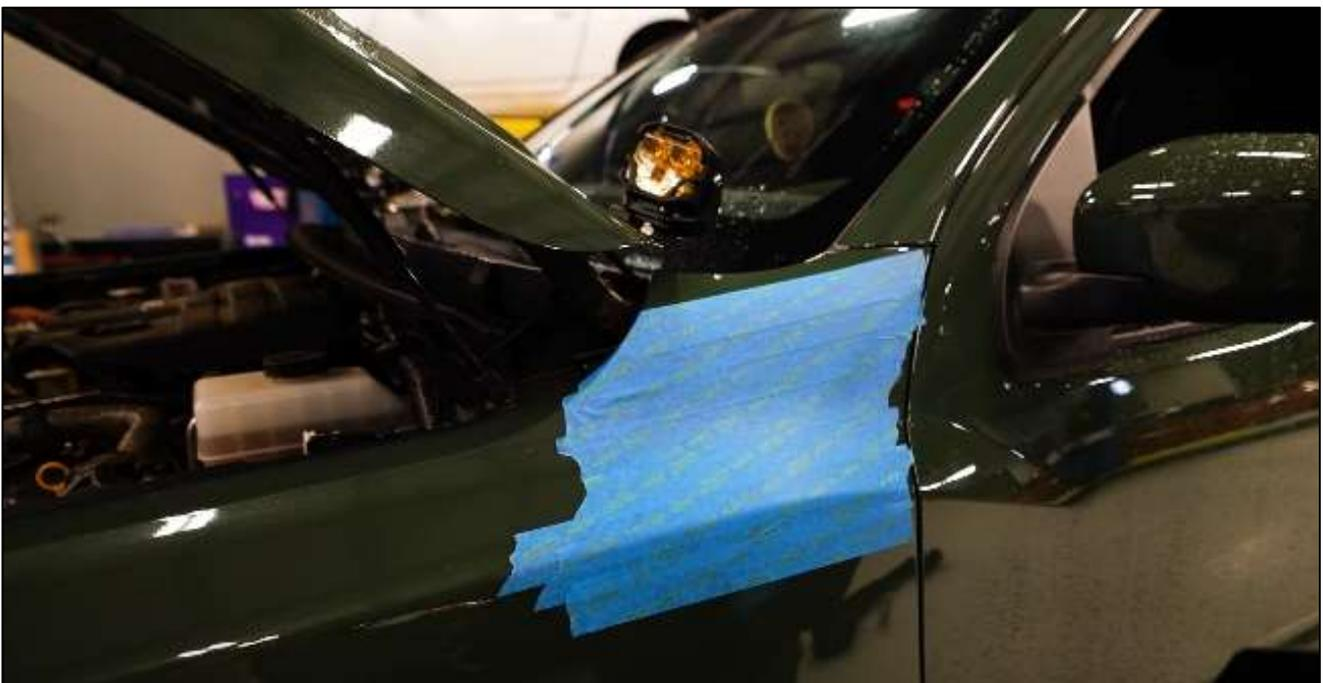

Figure 4
7. Using Painters Tape, tape over the section of the Driver's Side Fender where you will cut. Use enough tape to cover the entire area where the Locating Template will sit. *Figure 4*.